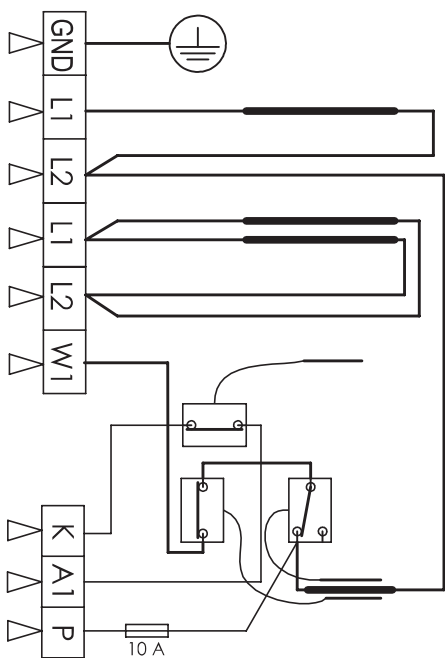

Figure 8 Electrical connections of heater
2. See applicable wiring diagram for heater model (figure 8, see control unit manual for detailed instructions how to connect the heater and the control unit). Heater must be permanently installed by using seal tight conduit between the heater and the wall of the sauna room (pigtailed or plugs are not allowed in the sauna room). Wiring must be done by a licensed electrician, who must follow wiring diagram provided and adhere to local codes. Use proper AWG rated wire size and use copper wire suitable for 194 °F (90 °C) within sauna walls. Use grounding terminals provided in sauna heater and control unit to properly ground the equipment as per NEC and local codes.